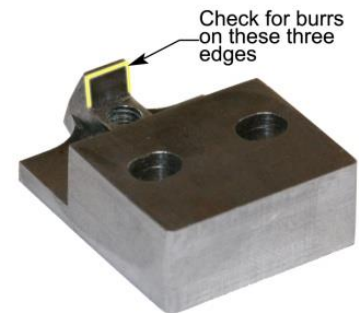

Figure 3: Inspect Latch Edges
2. Check for burrs on the edges of the latch and lightly file with small file if necessary (see Figure 3).